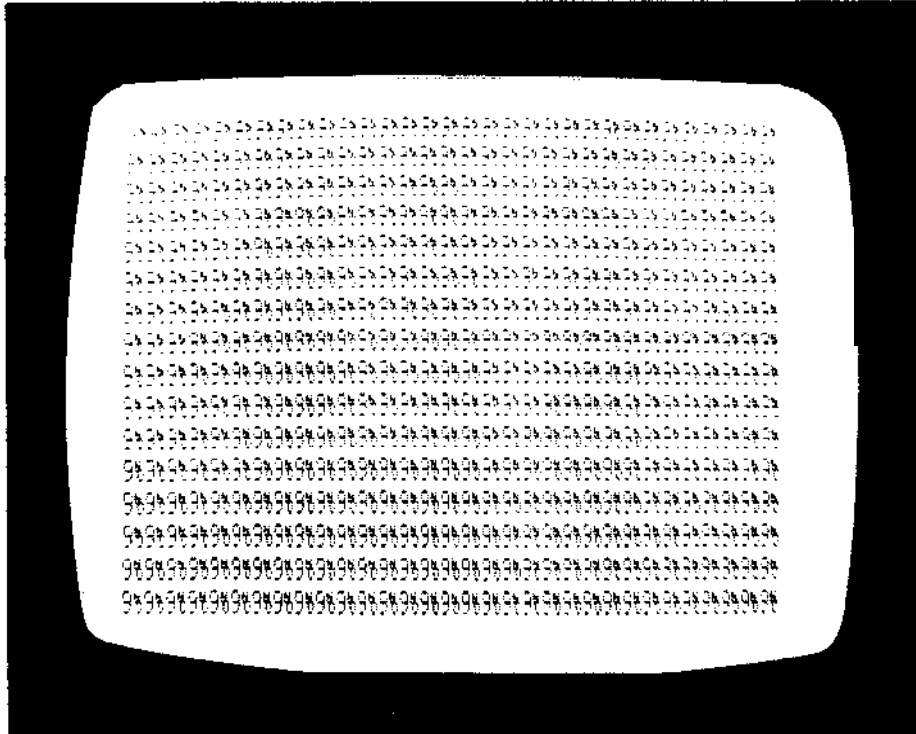

Figure 3-10. CPU Functional Test No. 2 display, 6575 character generator (U25). 6574 displays: 9 □ 9 □ 9 □ etc.
- () Momentarily ground pin 1 of U2 and pin 2 of U75. The display shown in Figure 3-10 on Page 111-31 should appear on the monitor.
- () Ground pin 1 of U2. You should see the same display as shown in Figure 3-10 on Page III-31. In this case, however, there should be a vertical "flickering" movement with an apparent flicker rate of approximately three times per second.